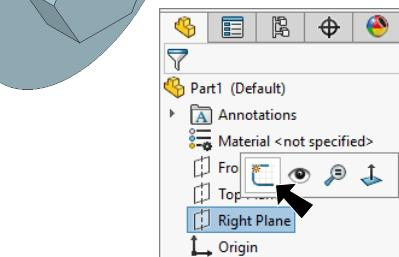

Fig. 1
Step 2. Click Right Plane in the Feature Manager and click Sketch on the context toolbar, Fig. 1.
Step 3. Click Circle (S) on the Sketch toolbar.